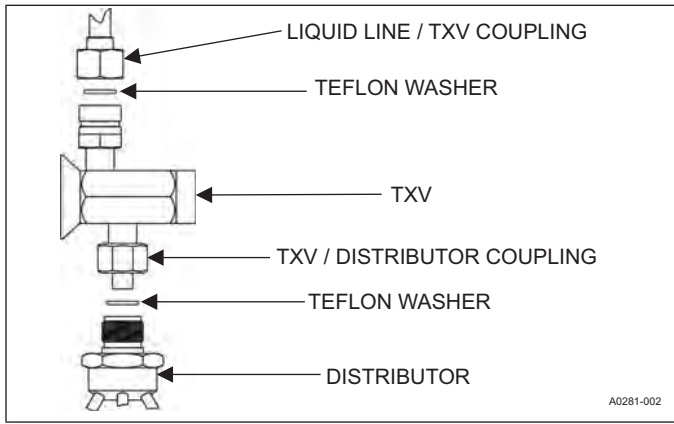

FIGURE 10: TXV Installation
4. Install the thermal expansion valve on the distributor assembly with supplied fittings. Ensure Teflon washer is seated in distributor. Hand tighten and turn an additional 1/4 turn to seal. Do not overtighten fittings. See Figure 10.
- Install the TXV equalizer line onto the vapor line by hand tightening the 1/4" SAE coupling nut to the equalizer fitting, and apply an additional 1/3 turn to seal. See Figure 10.